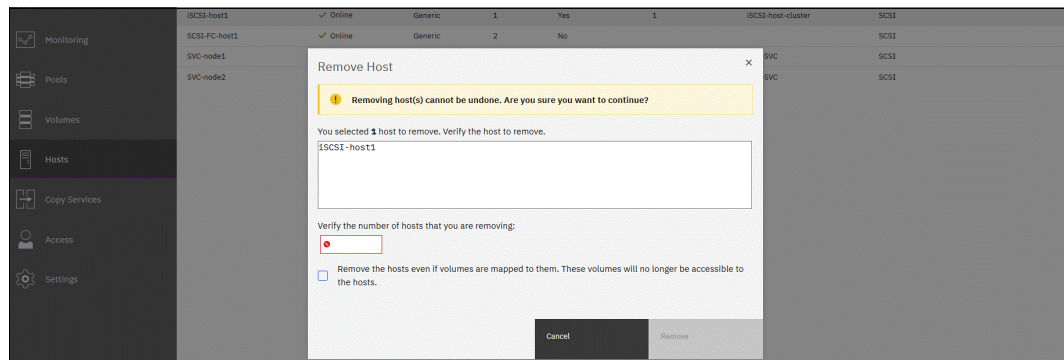

Figure 7-48 Confirming the removal of the host
- Confirm that the window shows the correct list of hosts that you want to remove by entering the number of hosts to remove and clicking **Remove** (see Figure 7-48).